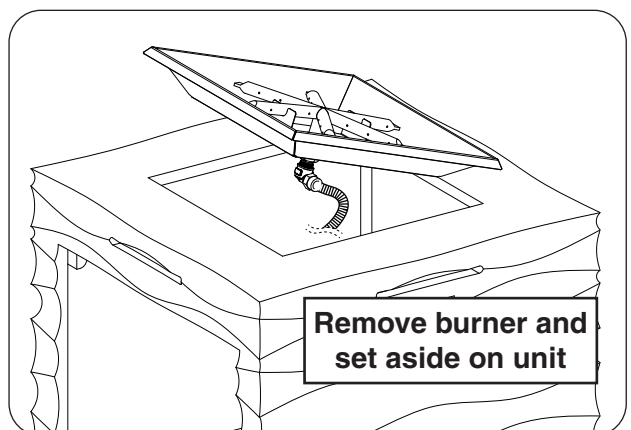

Fig. 27-3 Remove burner assembly from unit
3. Locate the burner assembly that is pre-connected and resting within the unit. Reach in and carefully angle and remove the assembly. Set the burner off to the side. See Fig. 27-3.